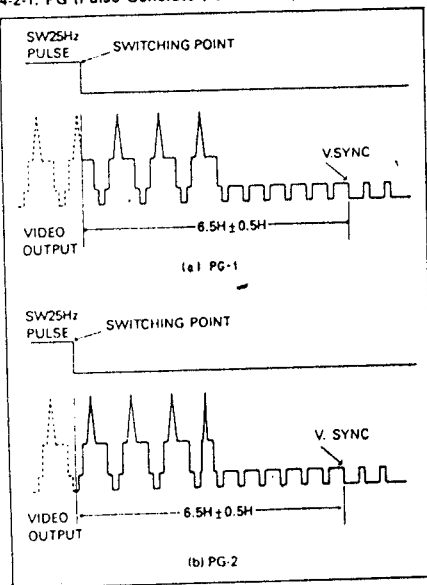

Fig. 4 PG Shifter
- 5) And then, set the scope to (-) slope and adjust the PG-2 Shifter control (VR202) as in the PG-1. (Fig. 4)